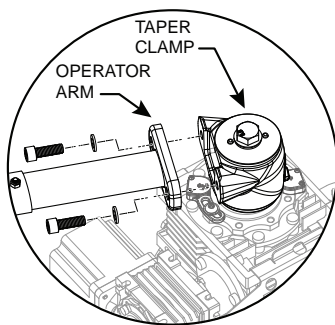

Figure 10. Operator Arm to Taper Clamp
3. Attach the operator arm to the taper clamp (Figure 10).